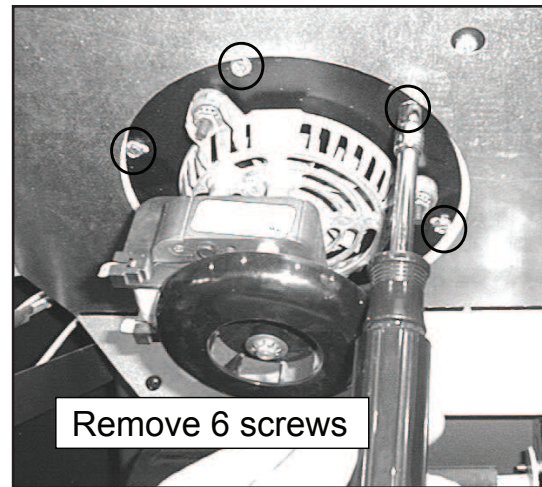

Figure 34.2
- Remove 6 screws using a flathead screwdriver or a 1/4" nutdriver. Retain screws for use on replacement blower. **Figure 34.2.**